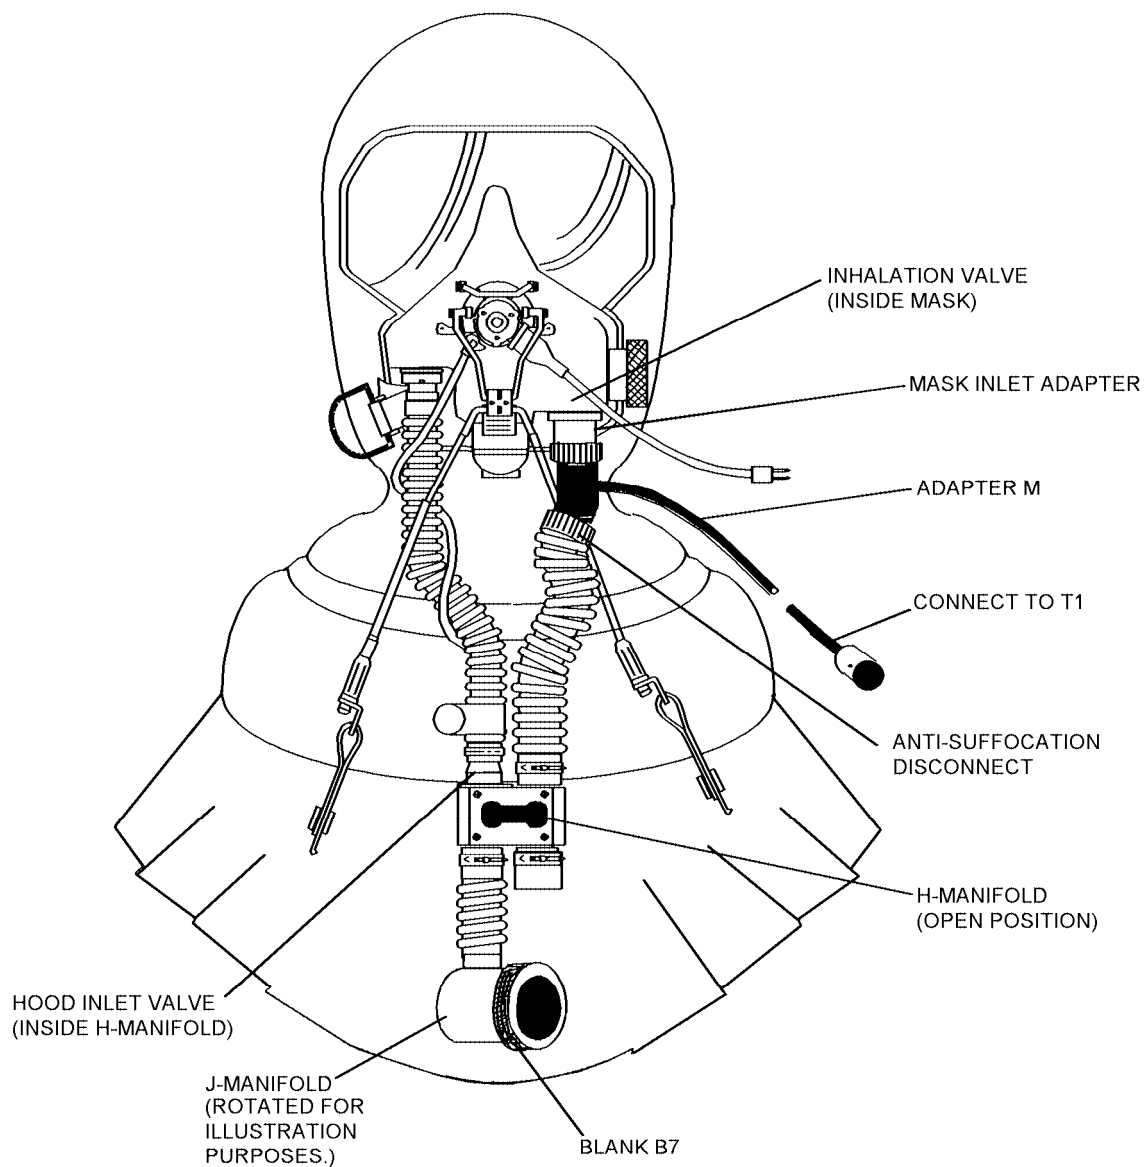

Figure 4-77. (V)1 Variant - Non-Oxygen Inhalation and Hood Inlet Valves - Reverse Leakage Test
5. Connect adapter M between mask inlet adapter and anti-suffocation disconnect (figure 4-77).